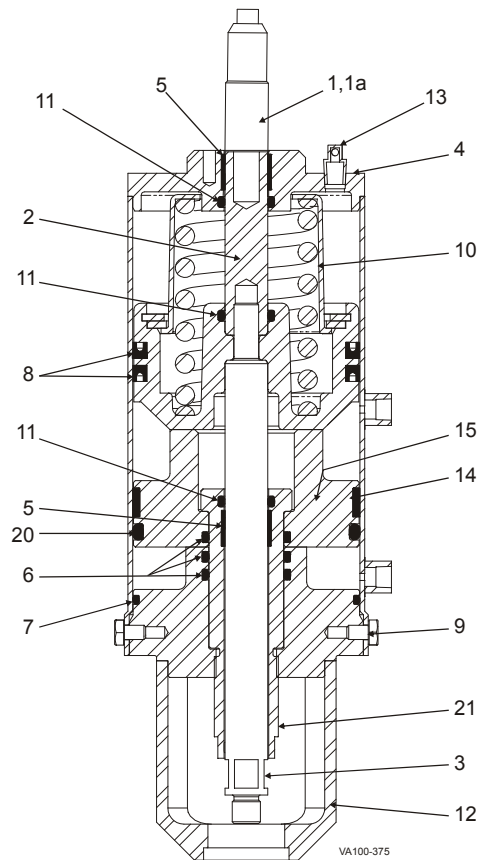

Figure 33: 4" Air-to-Raise 3-Position Actuator
1. Inspect the upper piston U-cup seal (Figure 33, item 8).
2. Remove the worn U-cup seal. Do not score or nick grooves in the piston (item 10).
5. Clean, prime and apply Loctite® 2440 Thread Locker, according to manufacturer's specifications, to the upper (items 1, 1a) and lower (item 3) stems. Torque the stems to 200 in/lbs.
6. Inspect the lower piston o-ring (item 20), stem o-ring (items 6 and 11) and yoke o-ring seals (item 7).
7. Remove the worn o-ring seals. Do not score or nick grooves in the piston (item 15).
10. Inspect and replace the PTFE guide bearings (items 14 and 5) as needed.
11. Place the outer stem (item 21) in the lower piston.